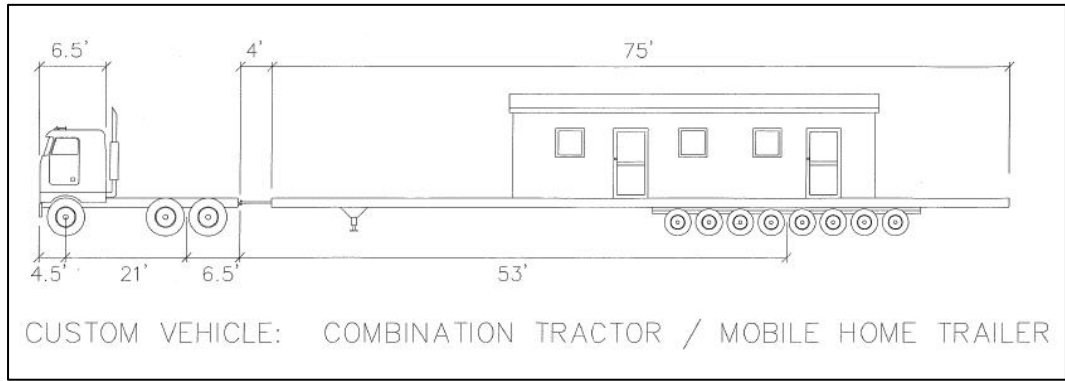

Figure 17 – Custom AutoTURN Vehicle
- Designed to accommodate mobile home trailer (See Figure 17 & 18)